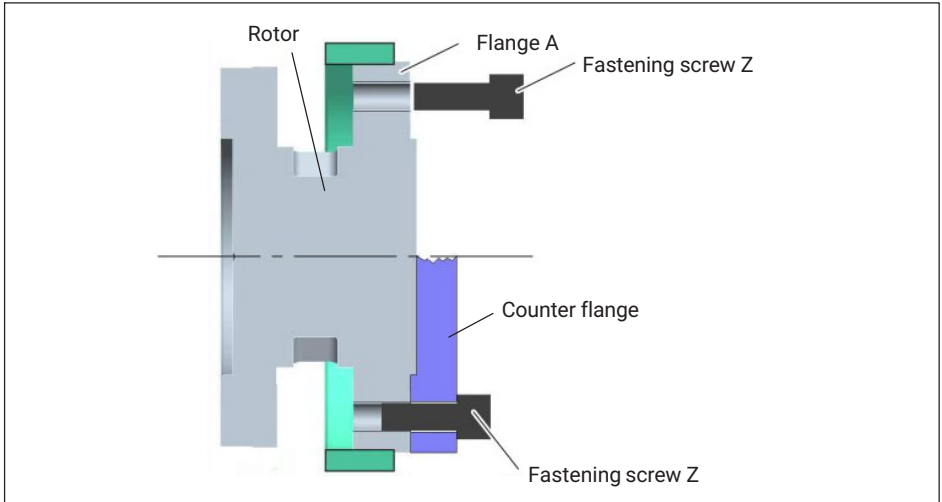

Fig. 6.4 Mounting the rotor
- For a rotor connection with bolts (see Fig. 6.4), use eight hexagon socket screws to DIN EN ISO 4762 with property class stated Tab. 6.2 in a suitable length (dependent on the connection geometry, see Tab. 6.2 on page 20).